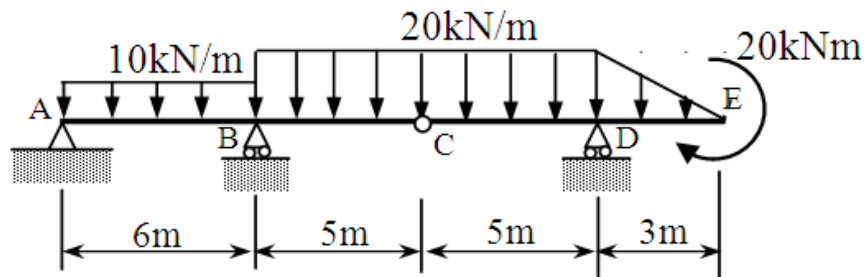

Figure 7/Rajah 7
- [b] **Figure 7** shows a beam structure with pinned support at A, roller supports at B, D and hinge joint at C. The beam is loaded with a uniformly distributed load 10 kN/m and 20 kN/m along spans AB and BCD, respectively; a linearly distributed load varying from 20 kN/m at D until 0 kN/m at E along overhang span DE; and a couple 20 kNm at free end E. Draw the shear force and bending moment diagrams for the beam. Sketch also the qualitative deflected shape.